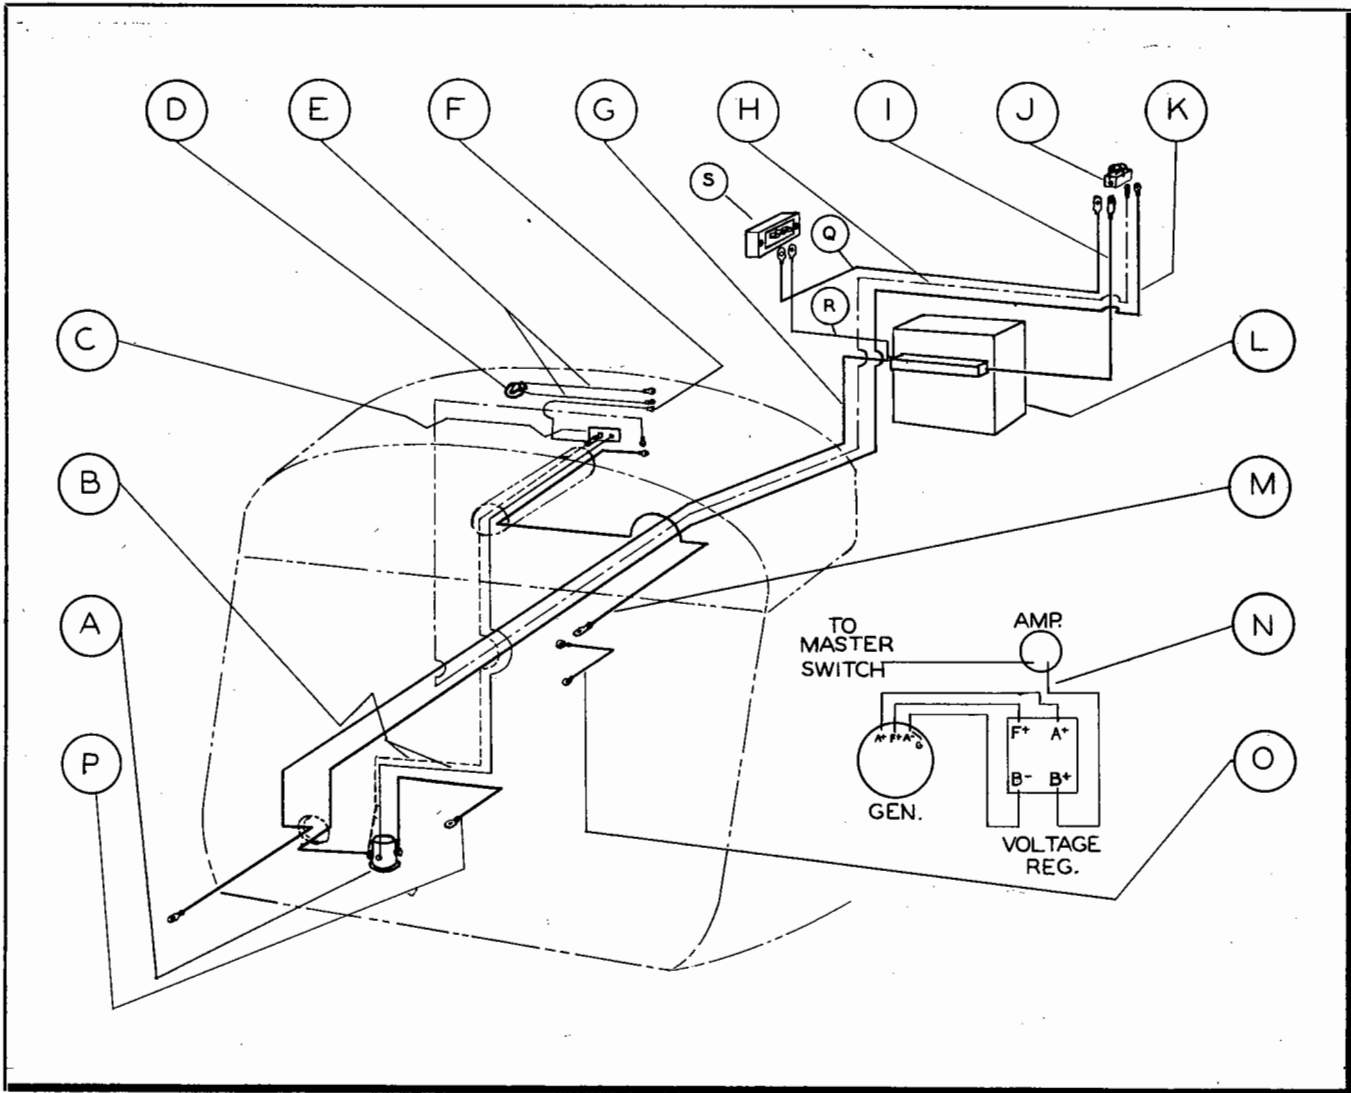

Figure 6—Electrical System Diagram
m. ELECTRICAL SYSTEM.—The electrical installation is a single-circuit 12-volt ground system. One AN-315234 ampere-hour battery is installed in the fuselage and one type E-7A generator is installed on the engine. (See figure 6.)
Key to Figure 6